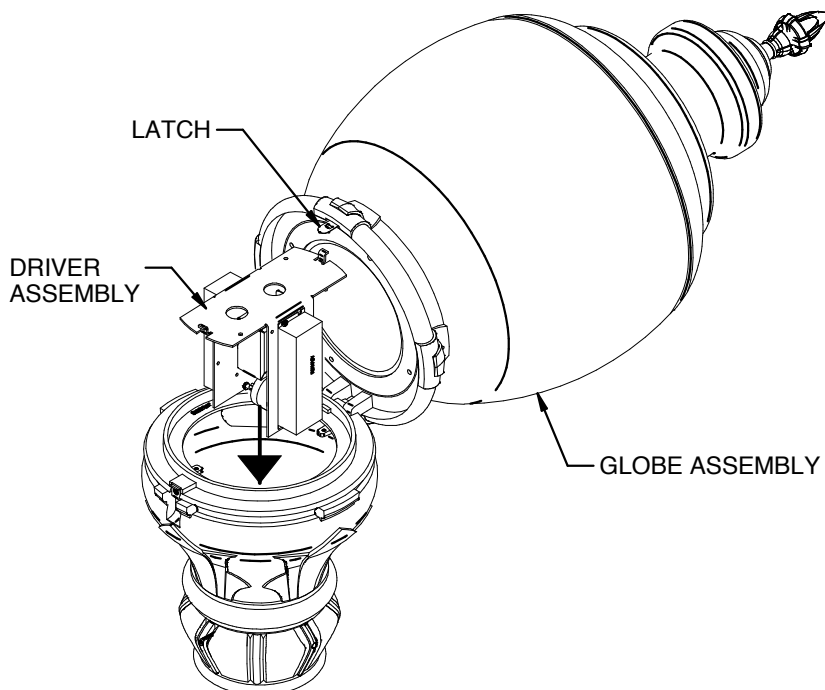

FIG. 4-1
1. TILT GLOBE ASSEMBLY TO THE SIDE BY PULLING LATCH BACKWARD. (FIG 4-1)
2. INSTALL DRIVER ASSY. (FIG. 4-1)